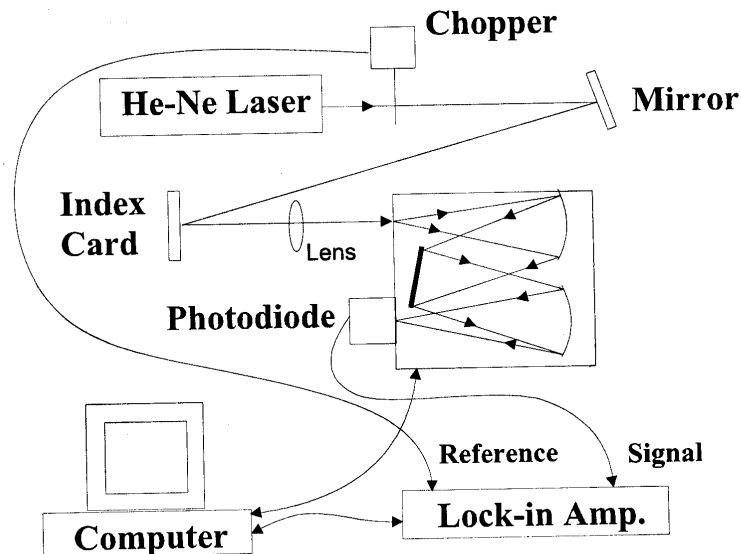

Figure 3. Instrumental set up.
- 1) Assemble the basic system layout as per Figure 3.